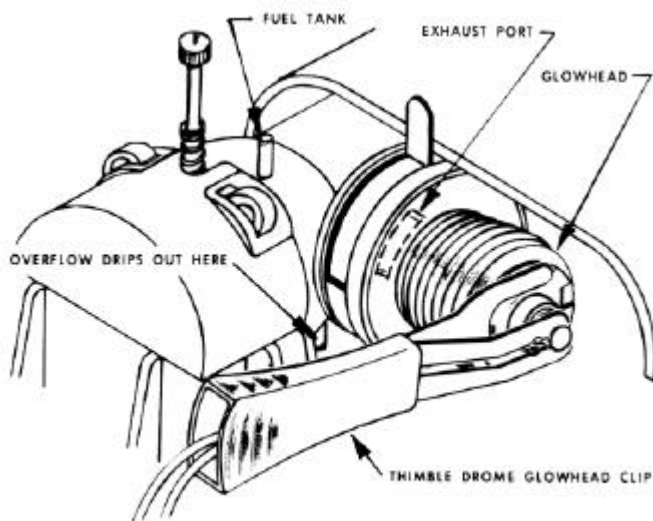

Fig. 4
8. Stick the fuel hose into the muffler and put a few drops of fuel into the engine exhaust ports (See Fig. 4).